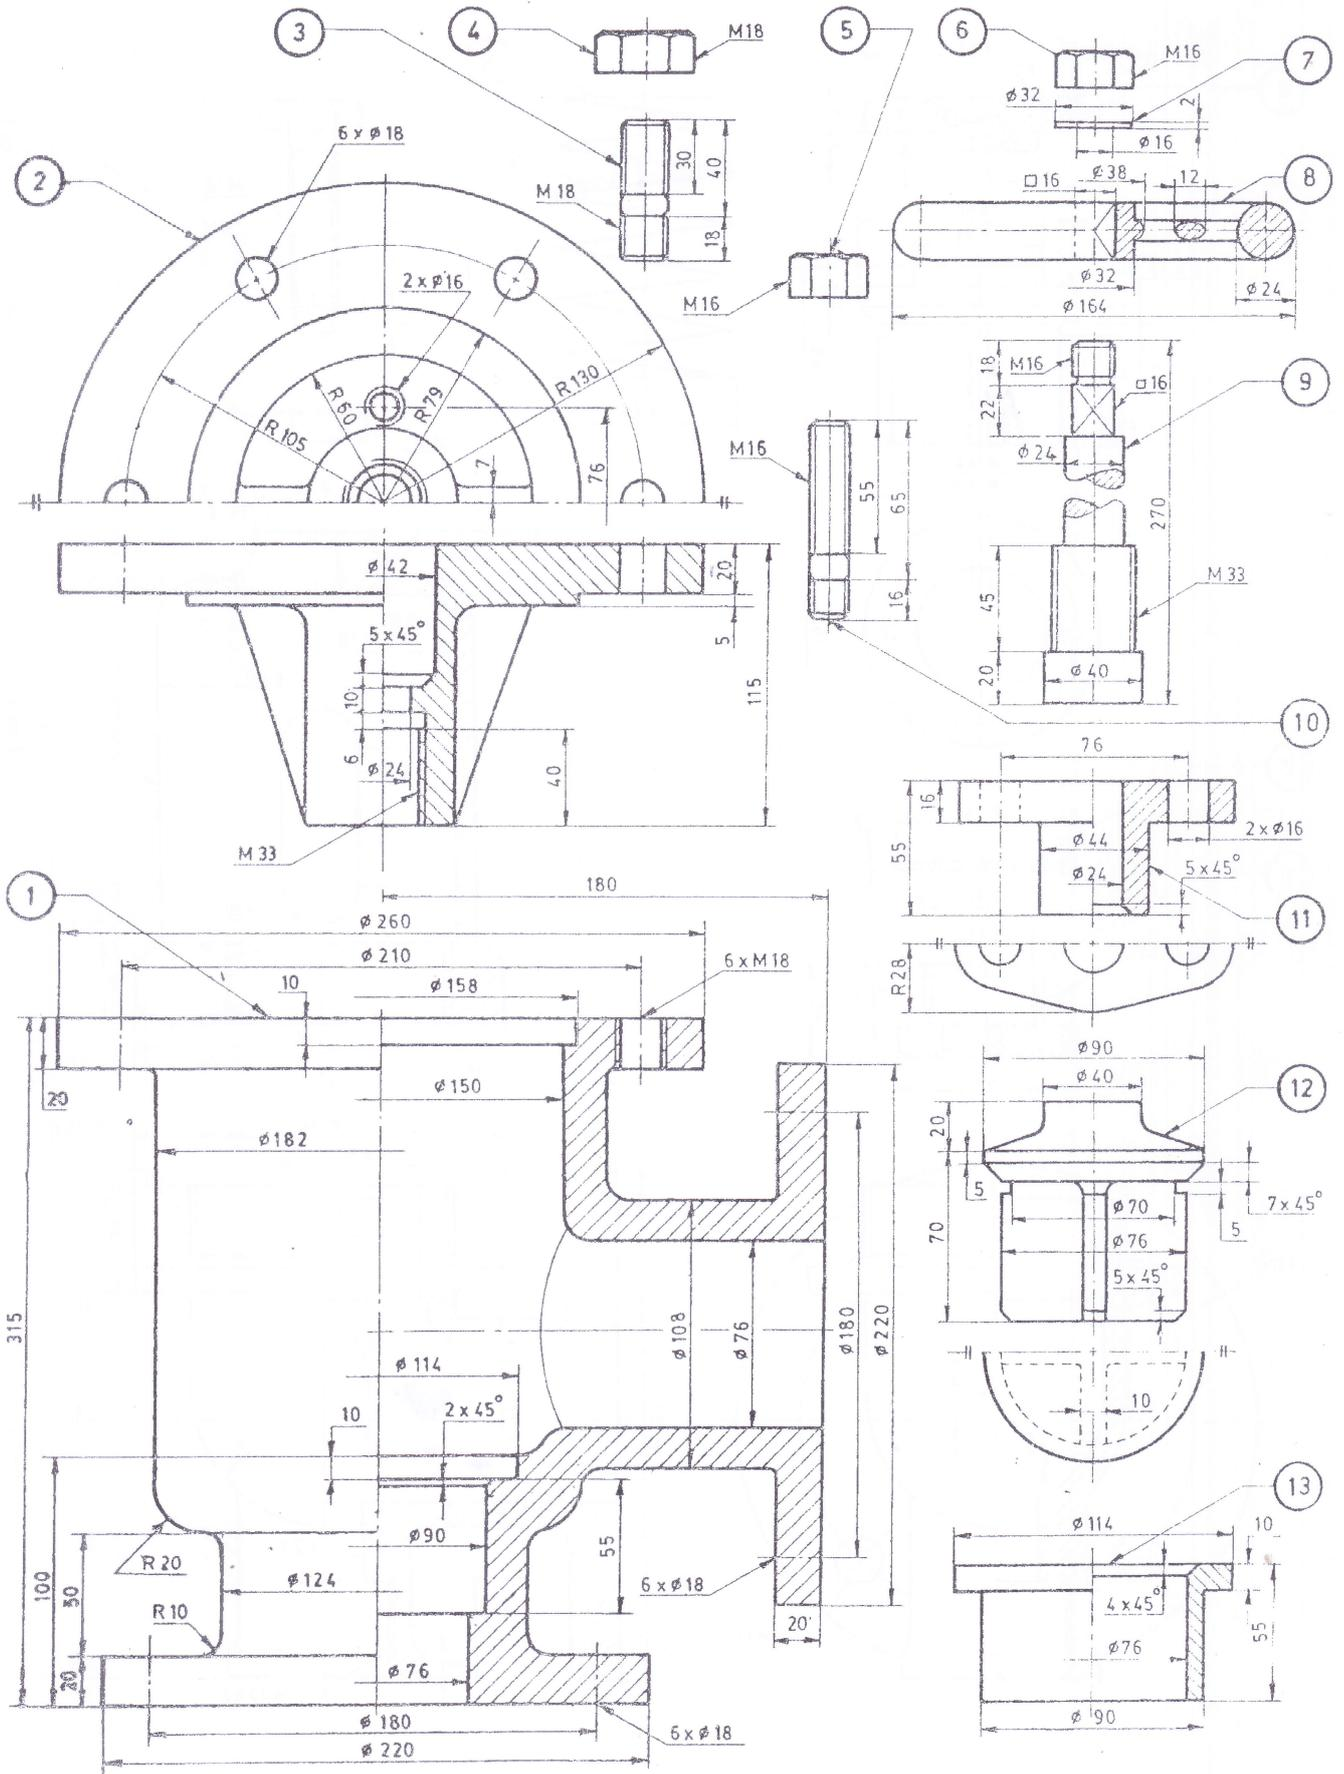

Fig.6
- VI. Details of a feed check valve are shown in figure 6. Assemble and draw: (50)